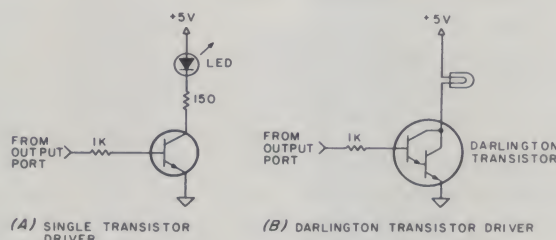

Fig. 2. Direct drive circuits to control a light.
**Theory:** If the light requires very low power—such as a low-wattage miniature bulb or a light-emitting diode (LED), then one of the direct drive circuits of Fig. 2 will work perfectly well.